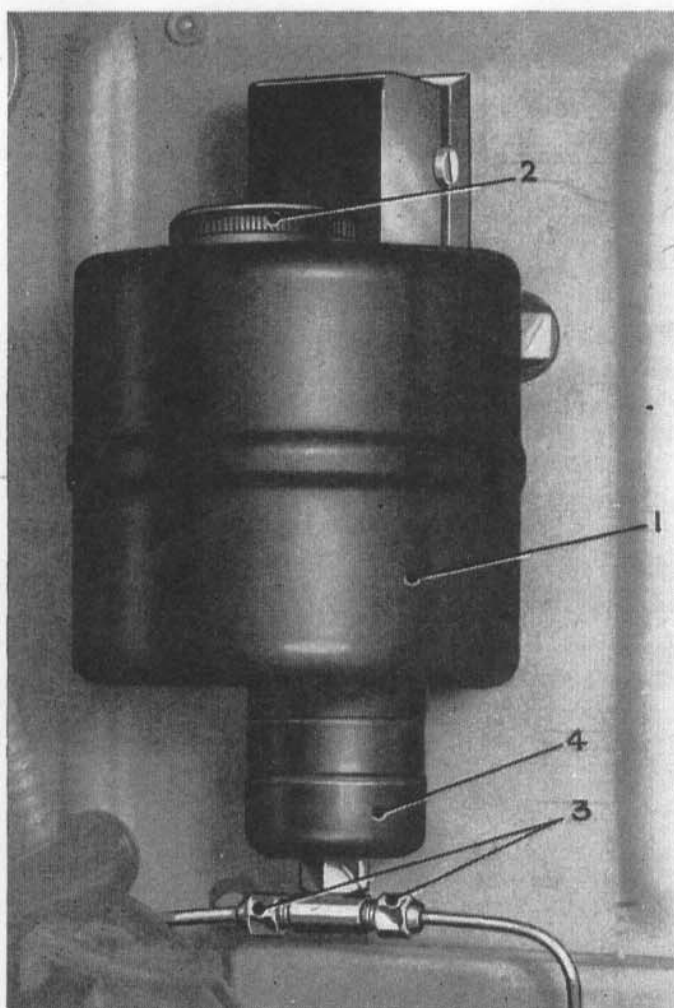

Fig. 5.—CHASSIS OIL PUMP AND RESERVOIR.
The chassis oil pump is shown in Fig. 5. Normally no attention to the system is necessary beyond filling of the reservoir with the correct oil (see page 28), after removal of the filling plug (2), as directed on page 29.